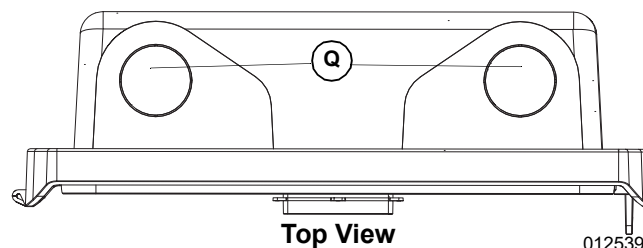

Figure 3-2. Conduit Knockouts
See Figure 3-2. Prior to installing the unit, drill or knock-out conduit holes in the breaker panel floor to match the conduit spacing (Q) of the PWRmanager. Drill or knock-out as needed on the PWRmanager as well. Prepare the conduit pieces, and knockout hubs.